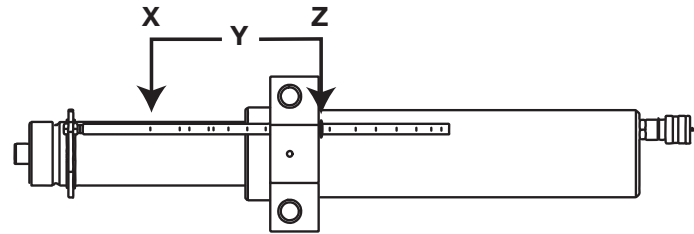

Figure 17
4. Advance ram to the  $Z$ -Position. Monitor the bend and stop when the rubber ring touches the top of the cylinder block. (Fig. 17)